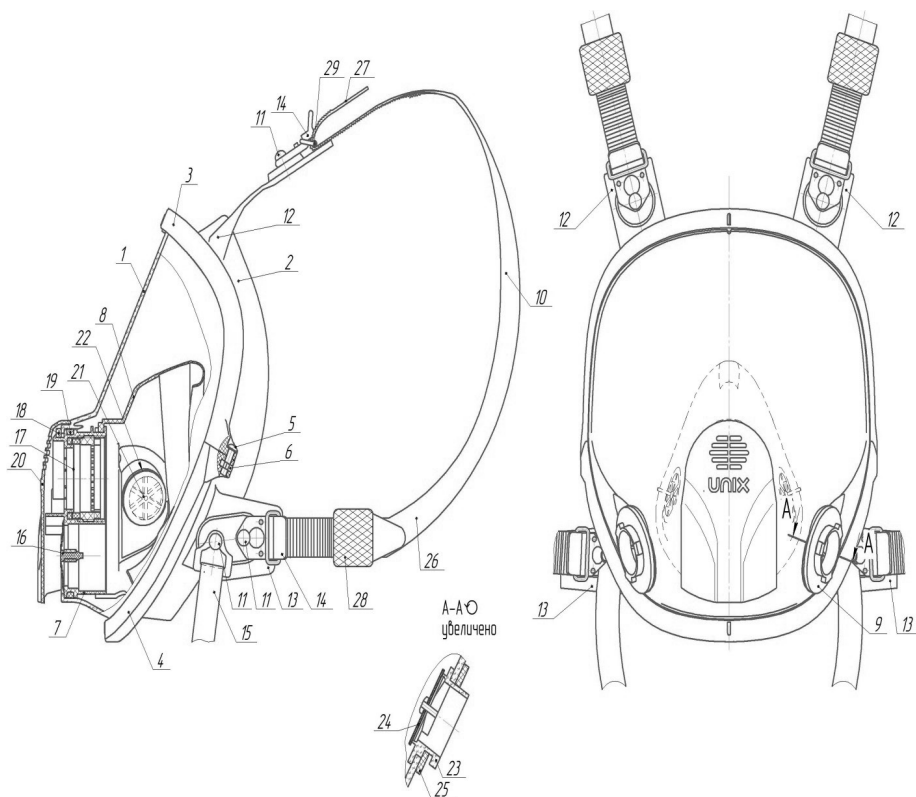

Figure 1 – Full Face Mask UNIX 6100
The mask (figure 1) consists of a visor (1), a sealer (2), frames of upper (3) and lower (4) frames, fastening the sealer with the visor using two screws (5) and nuts (6), a valve unit (7), an undermask (8), filter bayonet type couplings (9), a headband (10).
Maintenance and repairs shall be carried out only by specialists who have undergone the necessary training. Since this RPE is a mask with minimal maintenance, there are a limited number of spare parts for it (figure 1): sealing ring (25), headband (10), exhalation valve petal (16), inhalation valve petals (24). In case of damage of other parts, the mask shall be replaced.
Replacing the petals of the inhalation valves (figure 1)
Replacing the sealing rings (figure 1)
Replacing headband belts (figure 1)